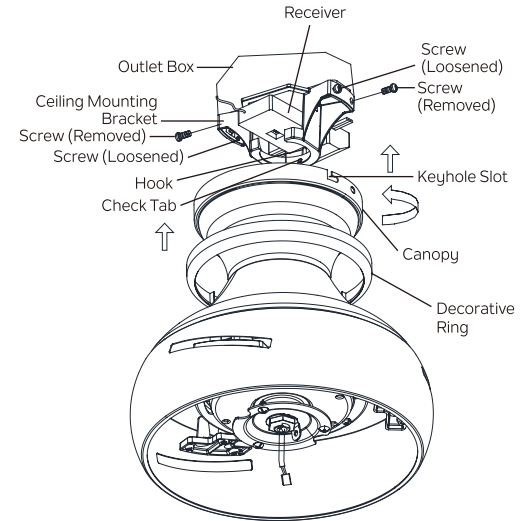

Fig. 17
Step 2. At the top of the ceiling mounting bracket, there are 4 preinstalled screws (2 on each side). On each side of the ceiling mounting bracket, loosen the first (left) screw just enough so that the screw will be able to lock into a “keyhole” slot in the canopy. Remove the second (right) screw. **(Fig. 17)**
Step 4. Reinstall the 2 screws that were removed into the aligned holes in the canopy and the ceiling mounting bracket. Tighten all 4 screws to secure. **(Fig. 17)**